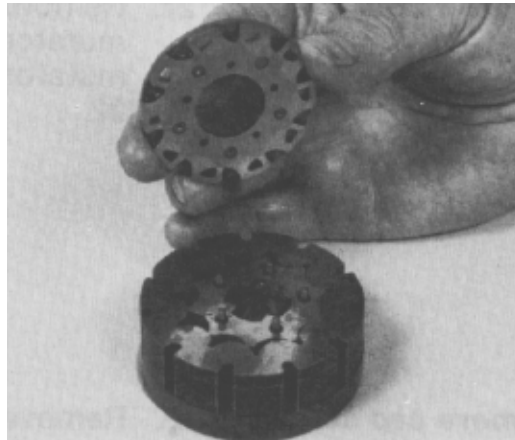

Figure 66
31. Remove the commutator from the rotor (Fig. 66).